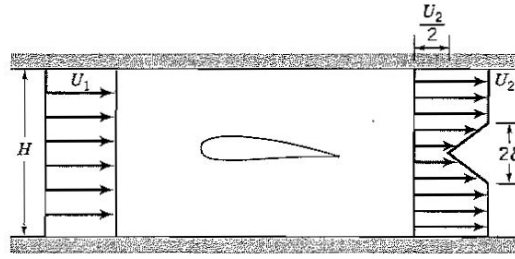

Figure P3.32
3.32 The wake of a body is approximated by a linear profile as sketched in Figure P3.32. The flow is incompressible, steady and two-dimensional. The pressures p_1 and p_2 are uniform across the flow. Outside of the wake region the flow is inviscid and the velocity is U_2 . The